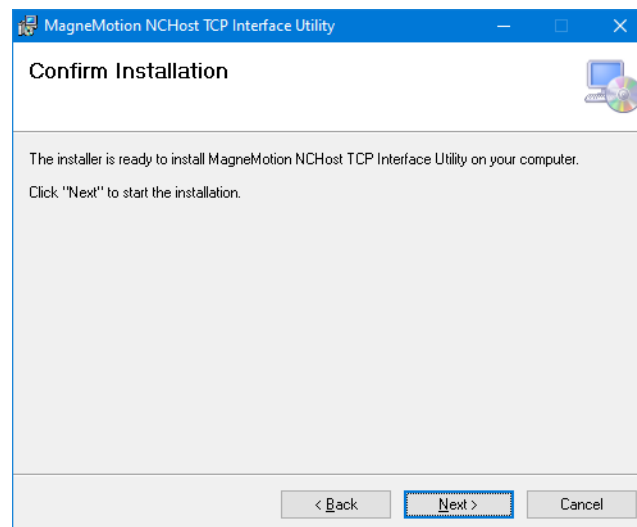

Figure 2-3: MagneMotion NCHost TCP Interface Utility Installation Confirmation
*The **MagneMotion NCHost TCP Interface Utility** setup wizard prompts for confirmation of the installation as shown in Figure 2-3.*